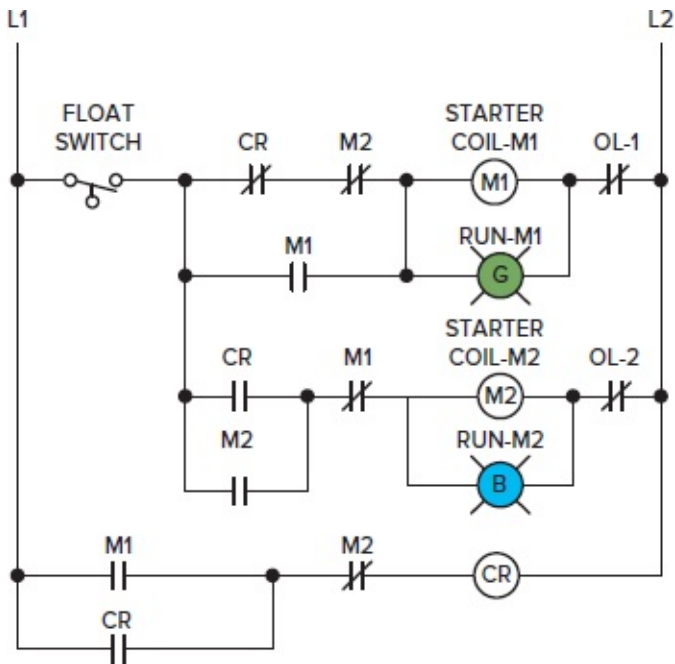

Figure 4-36 Alternating pumping operation control circuit.
When a pump operates frequently, too much stress may be subjected to a single motor pump. In such cases a second pump motor designed to operate alternately between two pumps may be used. The circuit of Figure 4-36 shows a float switch control of alternating pumps for removing fluid from a tank. A **control relay (CR)** consisting of an electromagnetic coil with normally open and closed contacts is used to switch low-level currents. The steps in the operation of the circuit can be summarized as follows: